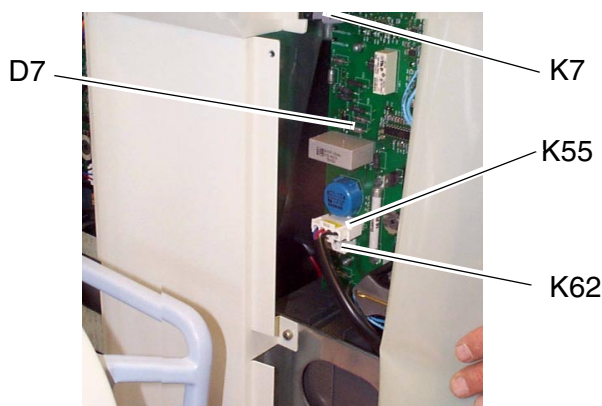

Fig. 27 Board D7
37. Disconnect pin plugs K7, K55 and K62 from board D7, see Fig. 27.